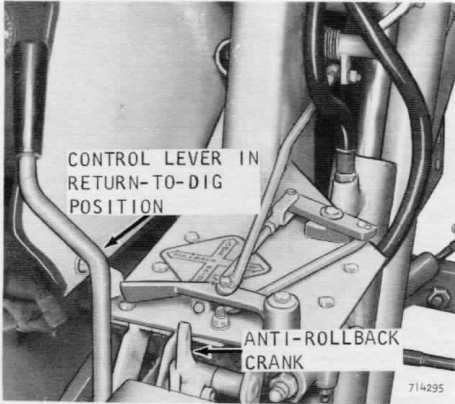

Figure 14 - Return-To-Dig Control
1. When the load has been dumped, move the control lever into the Return-To-Dig position, Figure 14.